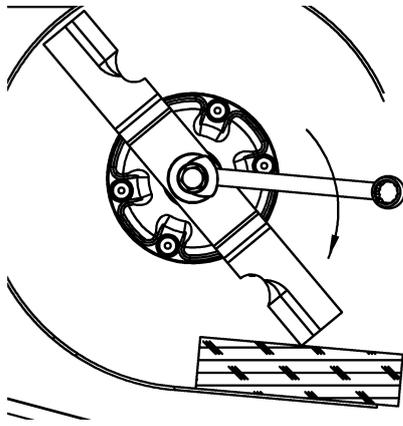

Figure 14
6.12.2 If there are no flats on the spindle shaft, wedge a wooden block (Refer to Figure 14) between the mower blade and the mower deck housing to keep the mower blade from turning.